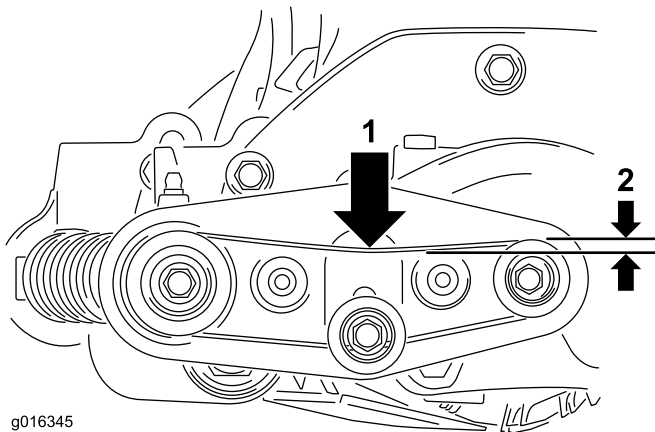

Figure 22
12. Check the tension on the brush drive belt. The belt should have approximately 6 mm (1/4 inch) deflection at the center of the belt with 1 kg (2 lb) of force applied; see Figure 22.